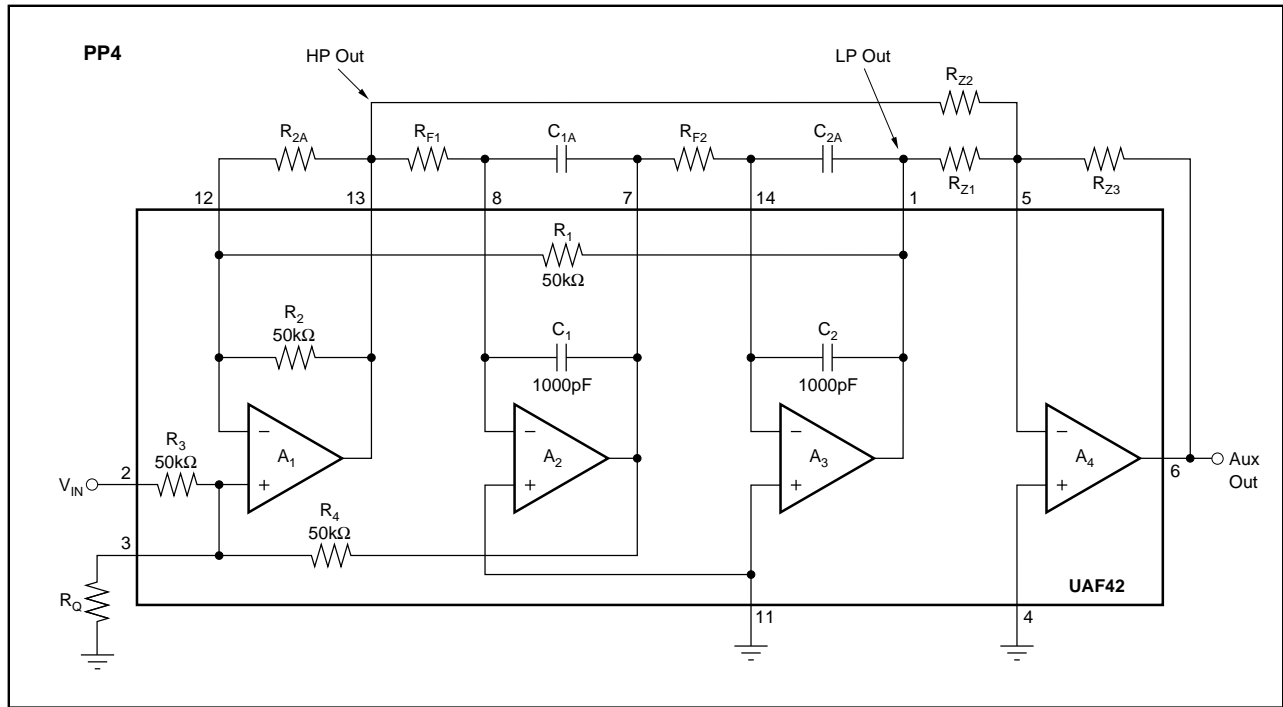

FIGURE 10. PP4 Noninverting Pole-Pair/Zero Subcircuit Using Internal Gain-Set Resistor  $R_3$ .
**PP4** (Noninverting pole-pair/zero subcircuit)—See Figure 10. In addition to a complex pole-pair, this configuration produces a  $j\omega$ -axis zero (response null) by summing the low-pass and high-pass outputs using the auxiliary op amp,  $A_4$ , in the UAF42. In the automatic topology selection mode, this configuration is used for all band-reject (notch) filter responses and Inverse Chebyshev filter types when  $Q > 0.57$ . This subcircuit option keeps external parts count low by using the internal gain-set resistor,  $R_3$ .